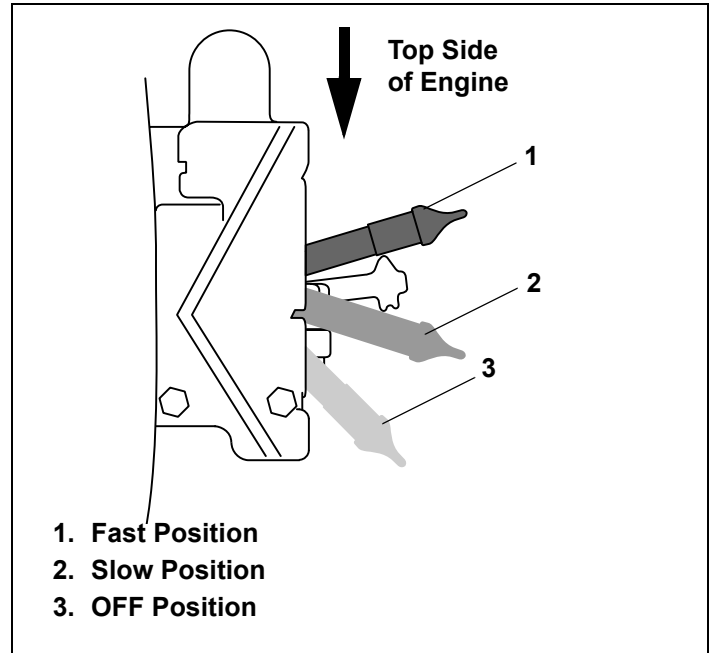

Figure 12. Engine Speed Control
If restarting a warm engine after a short shutdown, move Engine Speed Control to "FAST" position and move Choke Control to "NO CHOKE" position. See Figures 12 and 15.
- b. Next, move Choke Control to "NO CHOKE" position. See Figures 12 and 15.
- c. *Finally, move Choke Control to "NO CHOKE" position. See Figures 12 and 15.*